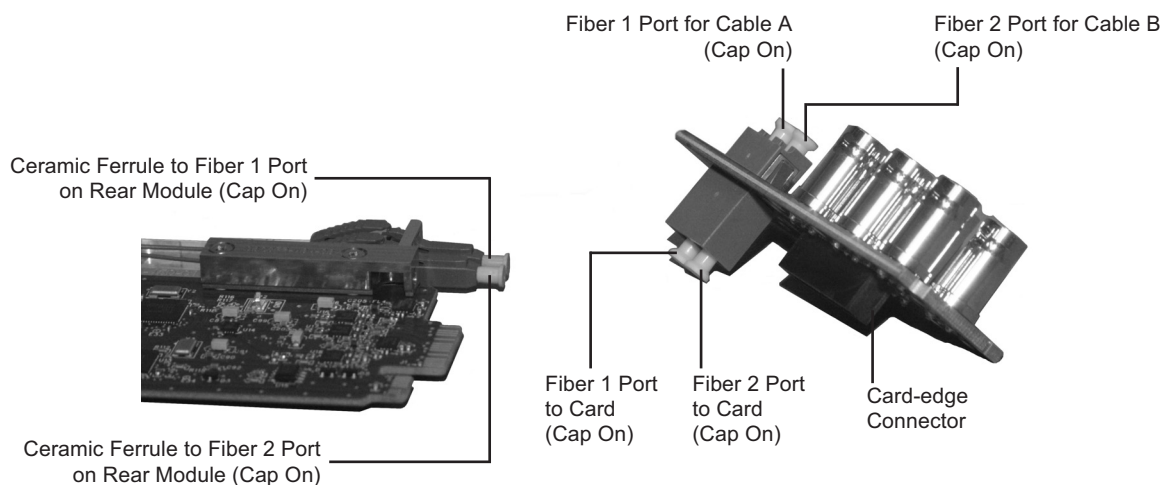

Figure 2.1 Card Connectors with Dust Caps Installed — 8320AR-044 Rear Module Shown
- Connectors must always be inserted into a device or have a dust cap on. Refer to **Figure 2.1** for dust cap locations.